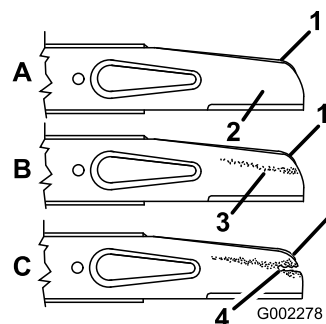

Figure 37
2. Remove the blade nuts, the accelerator, and the blade (Figure 37).